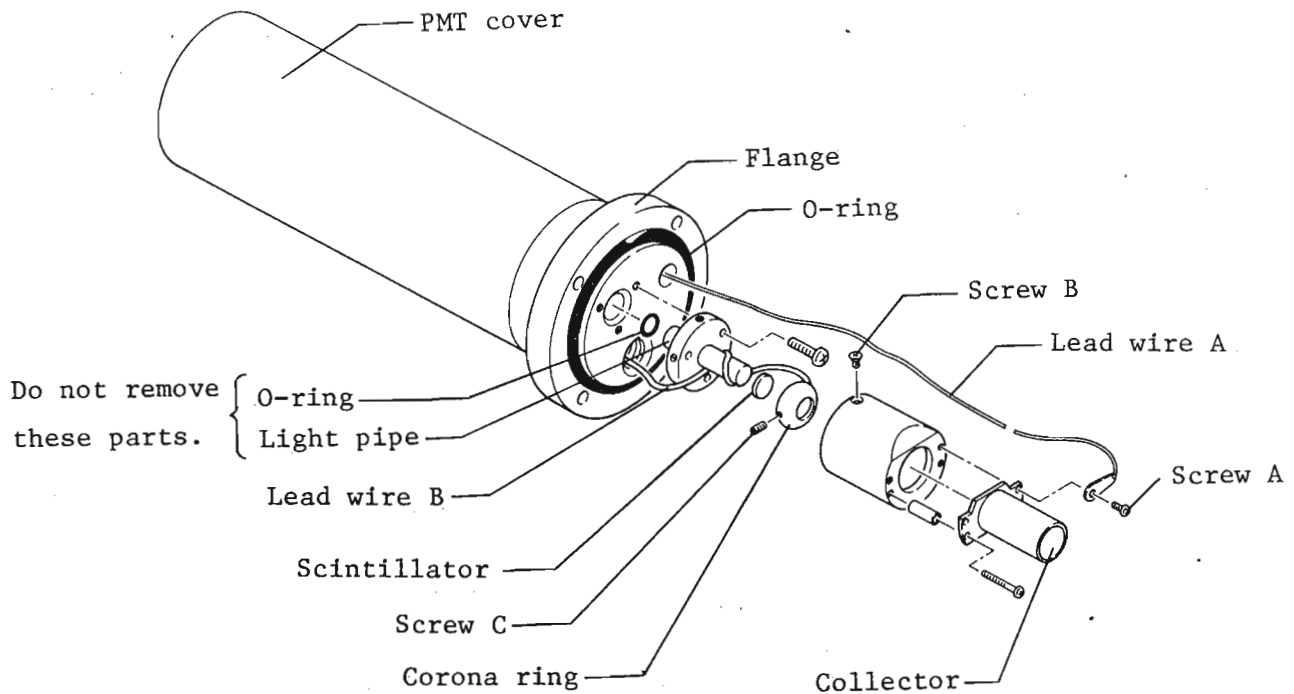

Fig. 5.11 Disassembling the detector
3. Remove lead wire A from the collector by loosening off screw A. then unscrew screws B (2 pcs.) and remove the shield pipe (Fig. 5.11).